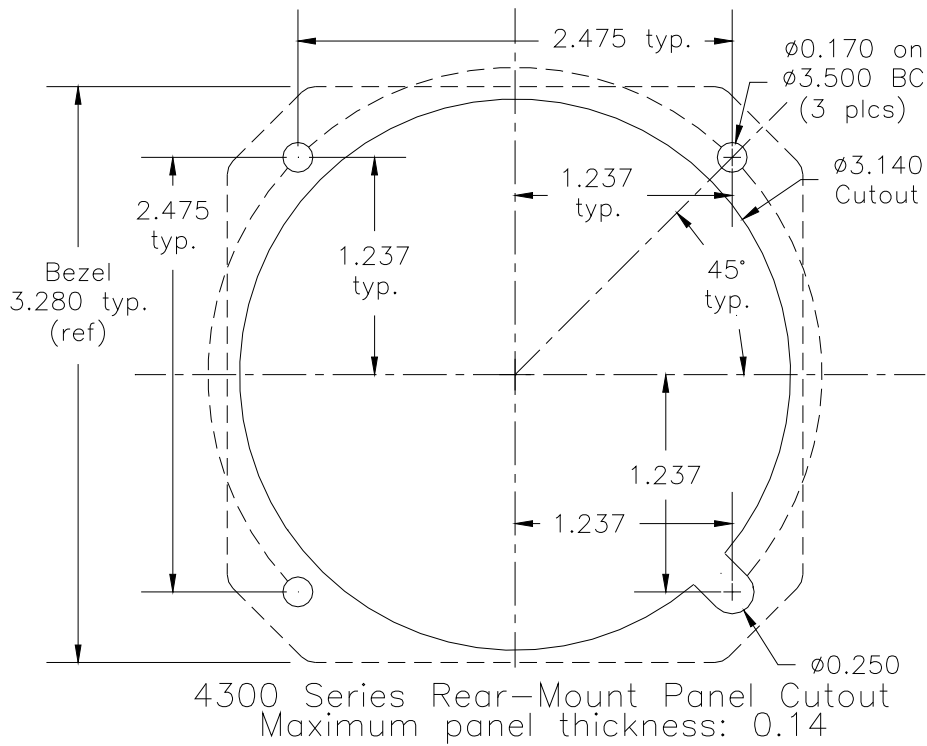
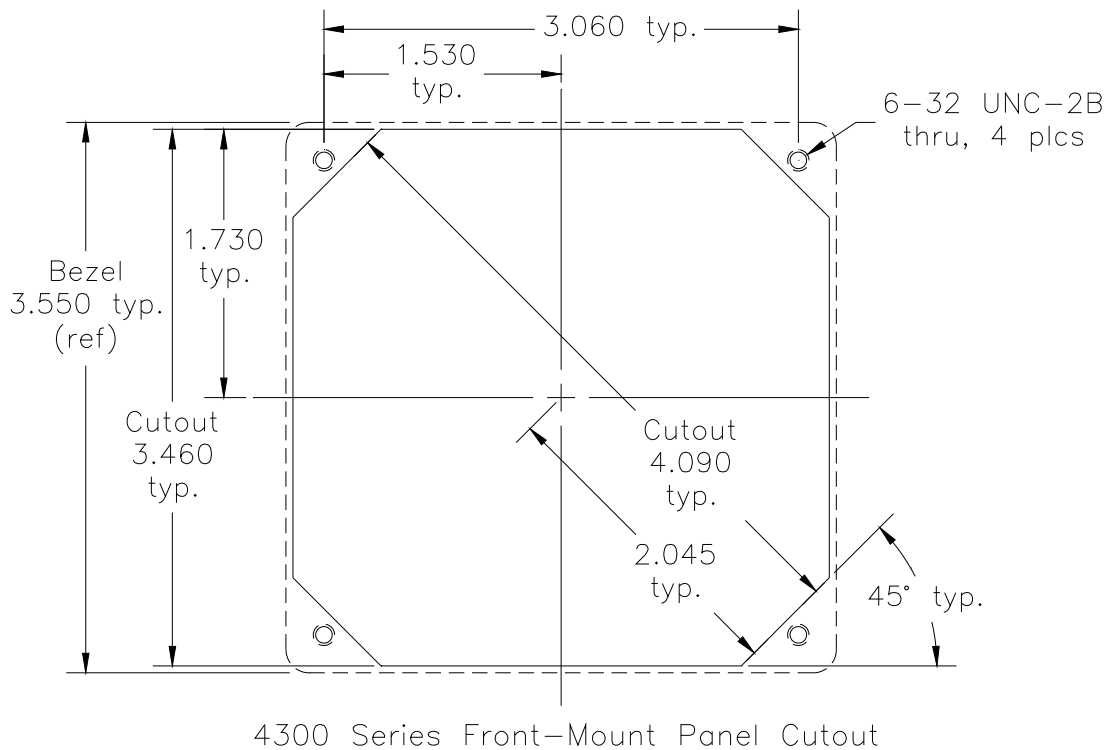

Figure 2.2: Panel Cutout Dimensions
Figure 2.3: Front Mount Panel Cutout Dimensions
- B. Ensure the available instrument panel cutout meets the requirements of the indicator. See Fig 2.2 or Fig 2.3 for details.